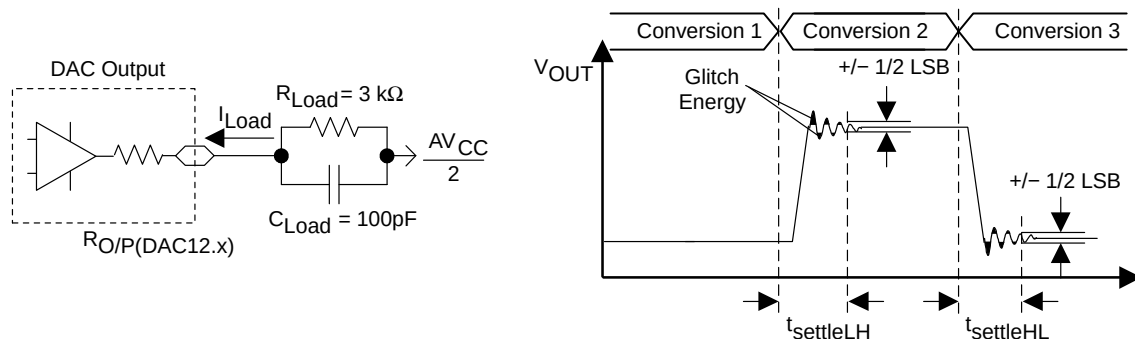
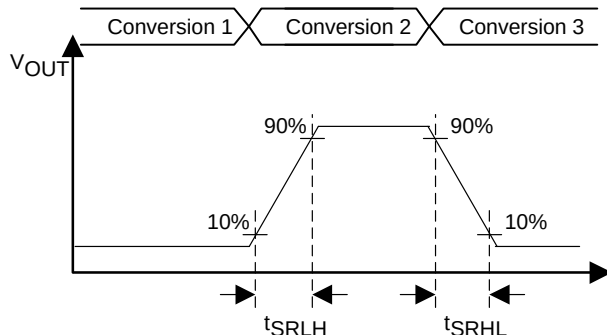

**Figure 23. Settling Time and Glitch Energy Testing**
Figure 24. Slew Rate Testing
**12-bit DAC, dynamic specifications; Vref = VCC, DAC12IR = 1 (see Figure 23 and Figure 24)**
| t ON DAC12 on-time                   | DAC12_xDAT = 800h, Error V(O) < ±0.5 LSB (see Note 1, Figure 23) | 2.2V/3V         | 60   |      | 120 | μs   |
- NOTES: 1. RLoad and CLoad connected to AVSS (not AVCC/2) in Figure 23.